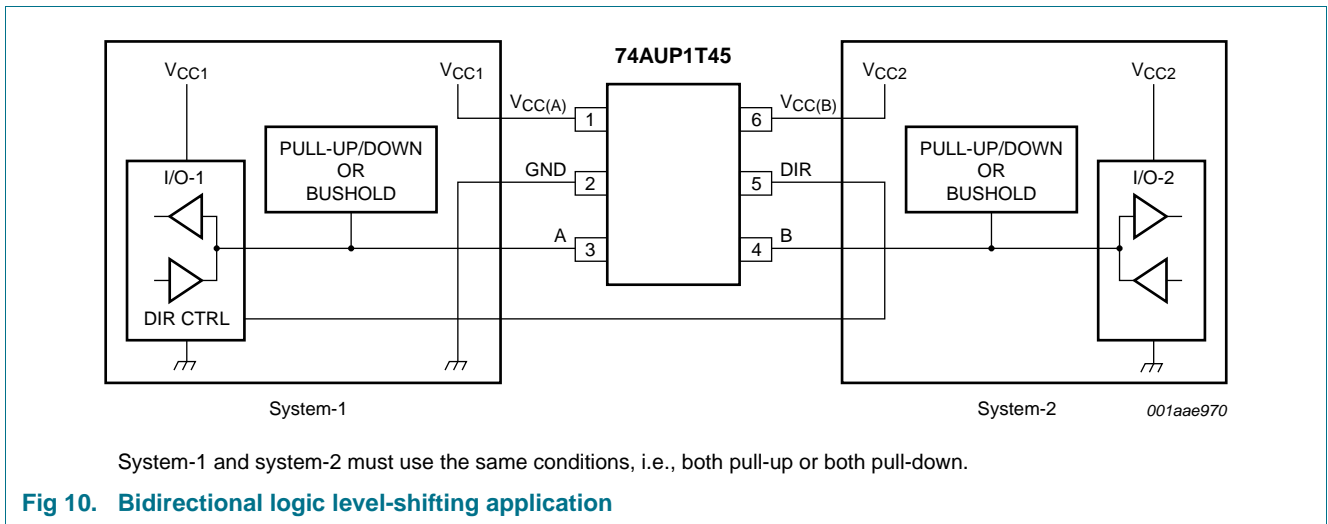

Fig 10. Bidirectional logic level-shifting application
Figure 10 shows the 74AUP1T45 being used in a bidirectional logic level-shifting application. Since the device does not have an output enable (OE) pin, the system designer should take precautions to avoid bus contention between system-1 and system-2 when changing directions.